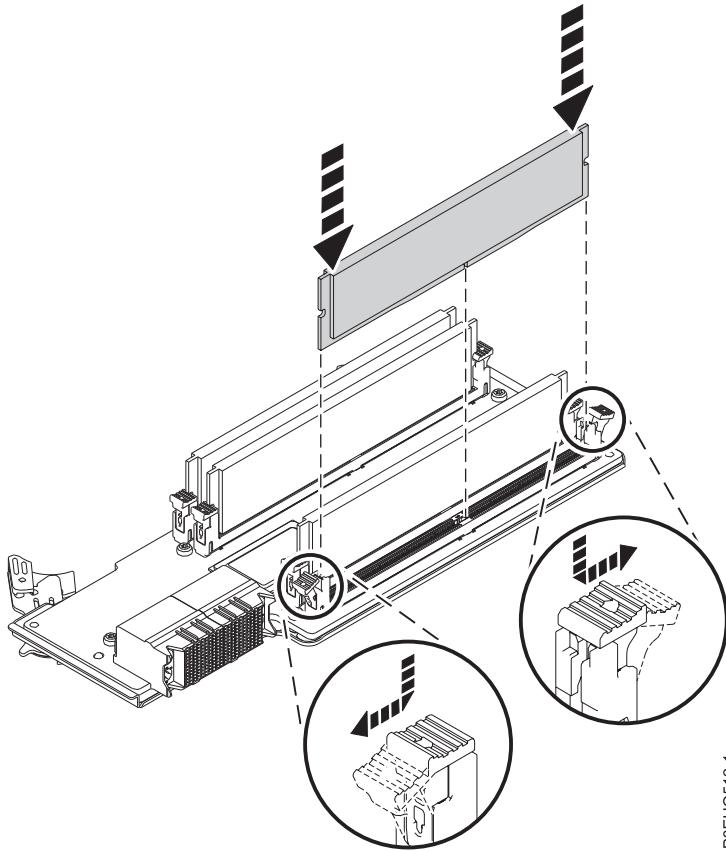

Figure 90. Replacing memory DIMM in a slot on the riser
- a. Push the locking tabs to the open position, away from the slot, in the direction shown in Figure 90 on page 74.